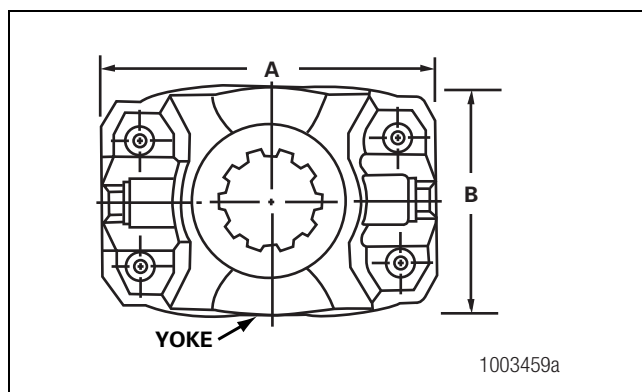

Figure 9.1
1. Measure dimensions A and B of the yoke you are servicing. Figure 9.1.